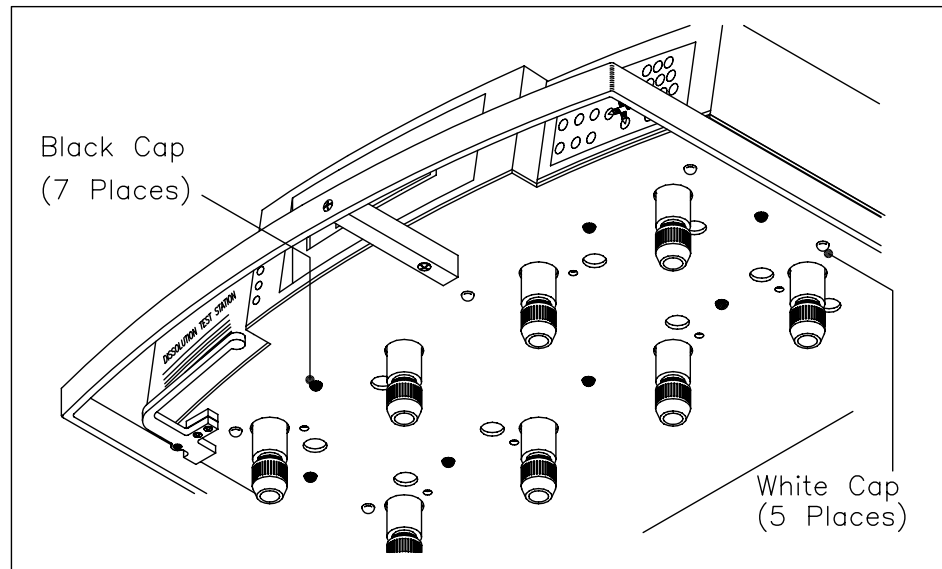

Figure 8-3: Cover Removal
2. Remove cover. (see Figure 8-3)
To remove drive head cover, see Figure 8-3.